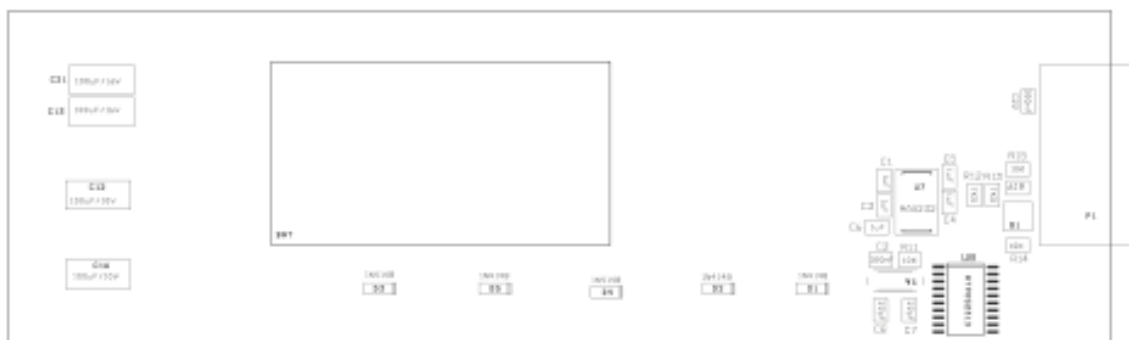

Figure 10. W-510DB1 Component Placement – Bottom Side
- Figure 10. W-510DB1 Component Placement – Bottom Side